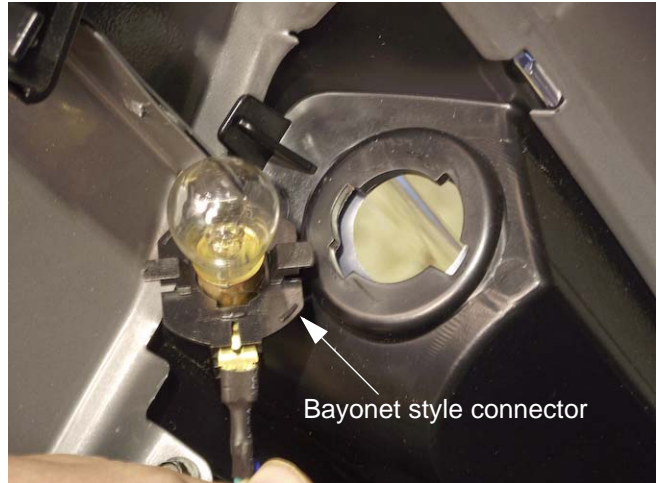

Figure 4.2
3. Rotate each headlight lamp socket to release them from the grill assembly. See Figure 4.2.